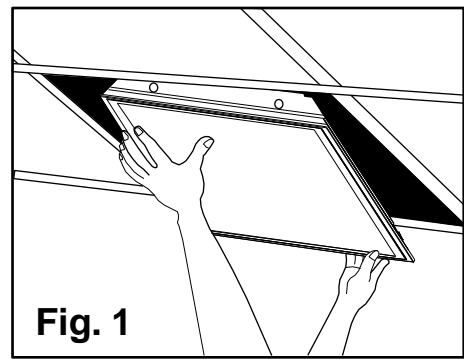

Fig. 1
3. Rest the **luminaire** on the T-Bar of the ceiling suspension system in the desired location (**Fig. 1**).